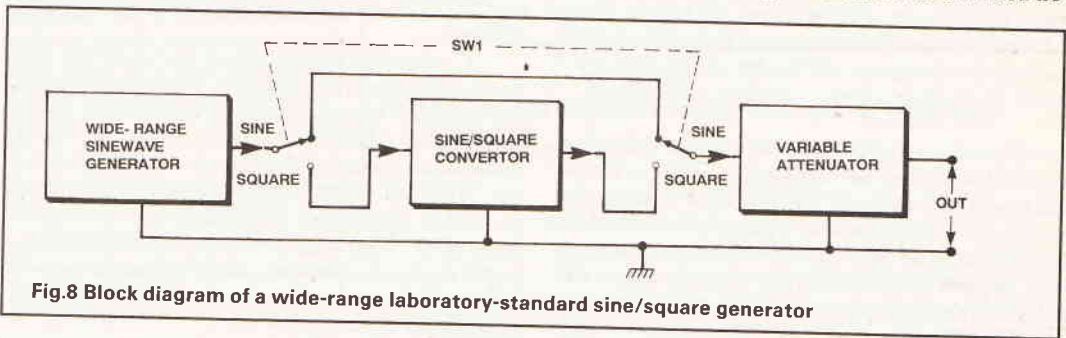

Fig.8 Block diagram of a wide-range laboratory-standard sine/square generator
**SONIC CONTROLLED MOTOR** One click to start, two click to reverse direction, 3 click to stop! £3.00 each ref 3P137Y
**LCD DISPLAY.** 4 1/2 digits supplied with connection data £3.00 ref 3P77Y or 5 for £10.00 ref 10P78Y
**ALARM TRANSMITTERS.** No data available but nicely made complex transmitters 9V operation. £4.00 each ref 4P81Y
**100M REEL OF WHITE BELL WIRE** figure 8 pattern ideal for intercoms, door bells etc £3.00 a reel ref 3P107Y
**TRANSMITTER RECEIVER SYSTEM** originally made for nurse call systems they consist of a pendant style transmitter and a receiver with telescopic aerial 12v. 80 different channels. £12.00 ref 12P26Y
**CLAP LIGHT.** This device turns on a lamp at a finger 'snap' etc. nicely cased with built in battery operated light. Ideal bedside light etc. £4.00 each ref 4P82Y
**ELECTRONIC DIPSTICK KIT.** Contains all you need to build an electronic device to give a 10 level liquid indicator. £5.00 (ex case) ref 5P194Y
**UNIVERSAL BATTERY CHARGER.** Takes AA's, C's, D's and PP3 nicads. Holds up to 5 batteries at once. New and cased, mains operated. £6.00 ref 6P36Y
**ONE THOUSAND CABLE TIES** 175mm x 2.4mm white nylon cable ties only £5.00 ref 5P181Y
**PC MODEMS** 1200/75 baud modems designed to plug into a PC complete with manual but no software £18.00 ref 18P12Y
**ASTEC SWITCHED MODE POWER SUPPLY** 80mm x 165mm (PCB size) gives +5 at 3.75A, +12 at 1.5A, -12 at 0.4A. Brand new £12.00 ref 12P39Y
**VENTILATED CASE FOR ABOVE PSU** with IEC filtered socket and power switch. £5.00 ref 5P190Y
**IN CAR POWER SUPPLY.** Plugs into cigar socket and gives 3.4, 5.6, 7.5, 9, and 12v outputs at 800mA. Complete with universal spider plug. £5.00 ref 5P167Y
**CUSTOMER RETURNED** switched mode power supplies. Mixed type, good for spares or repair. £2.00 each ref 2P292Y
frequency 'industrial' applications, and Figure 8 shows, in block diagram form, how a wide-range version of the oscillator can be used, in conjunction with a sine/square converter and a variable attenuator, to make a laboratory sine/square waveform generator.